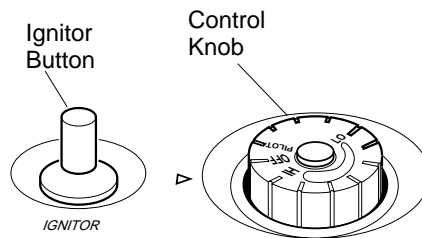

Figure 15 - Control Knob In The OFF Position
4. Wait five (5) minutes to clear out any gas. Then smell for gas, including near the floor. If you smell gas, STOP! Follow "B" in the safety information on page 10. If you don't smell gas, go to the next step.
5. Turn control knob counterclockwise  to the PILOT position. Press in control knob for five (5) seconds (see Figure 15).
**Note:** If pilot goes out, repeat steps 3 through 7. This heater has a safety interlock system. Wait one (1) minute before lighting pilot again.